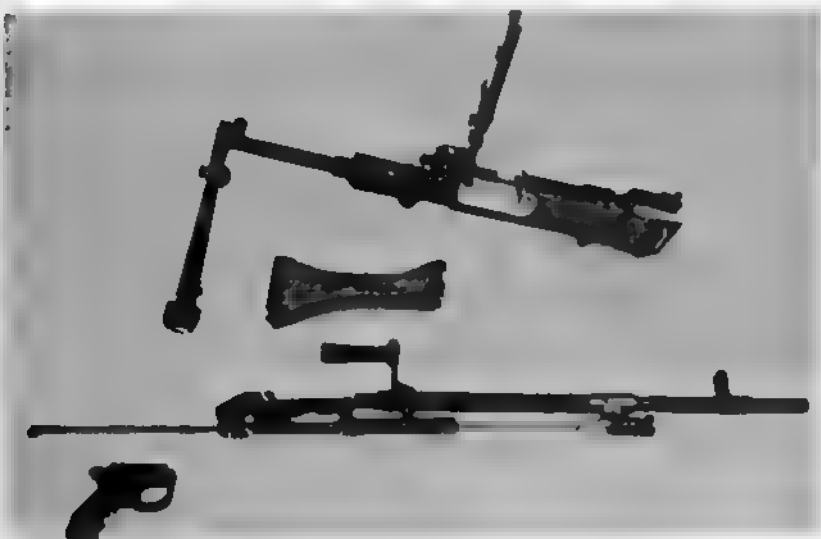

Fig. 36 — Stores layout for teaching mechanism
- a. *Lay out the stores as shown in Fig. 36.*